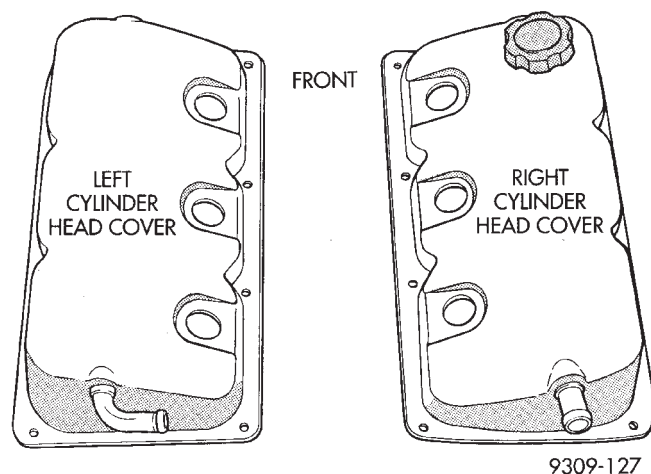

Fig. 4 Rocker Cover Assemblies
(6) Remove rocker cover screws and remove cover (Fig. 4).
(1) Clean cylinder head and cover mating surfaces. Install new gasket.
(2) Install cover and tighten cover bolt washer and gasket assembly to 12 N•m (105 in. lbs.) (Fig. 4).